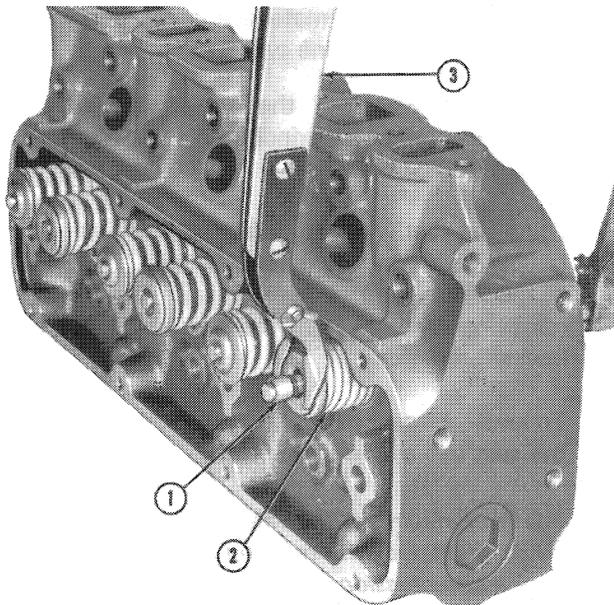
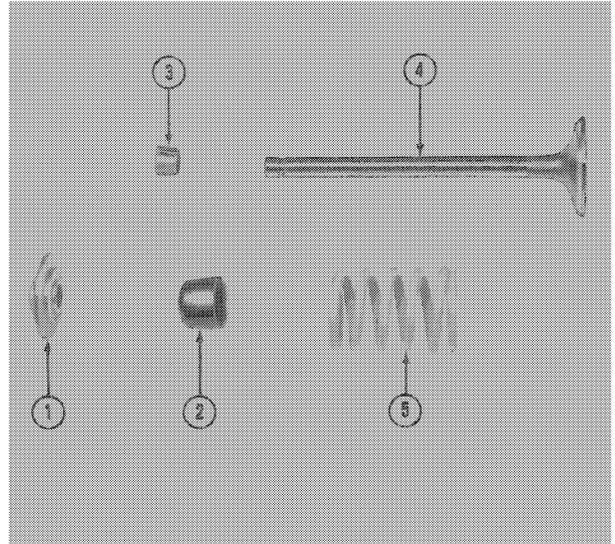

Figure 8
Figure 9
2. Using a valve spring compressor, Figure 8, remove the retainer locks, spring retainers/rotators, springs and seals from each valve, Figures 9 and 10.